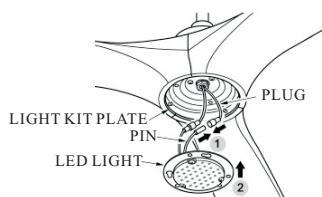

FIG.15
4. Plug together light kit wires from fan to light kit wires from LED light.(See fig.15)